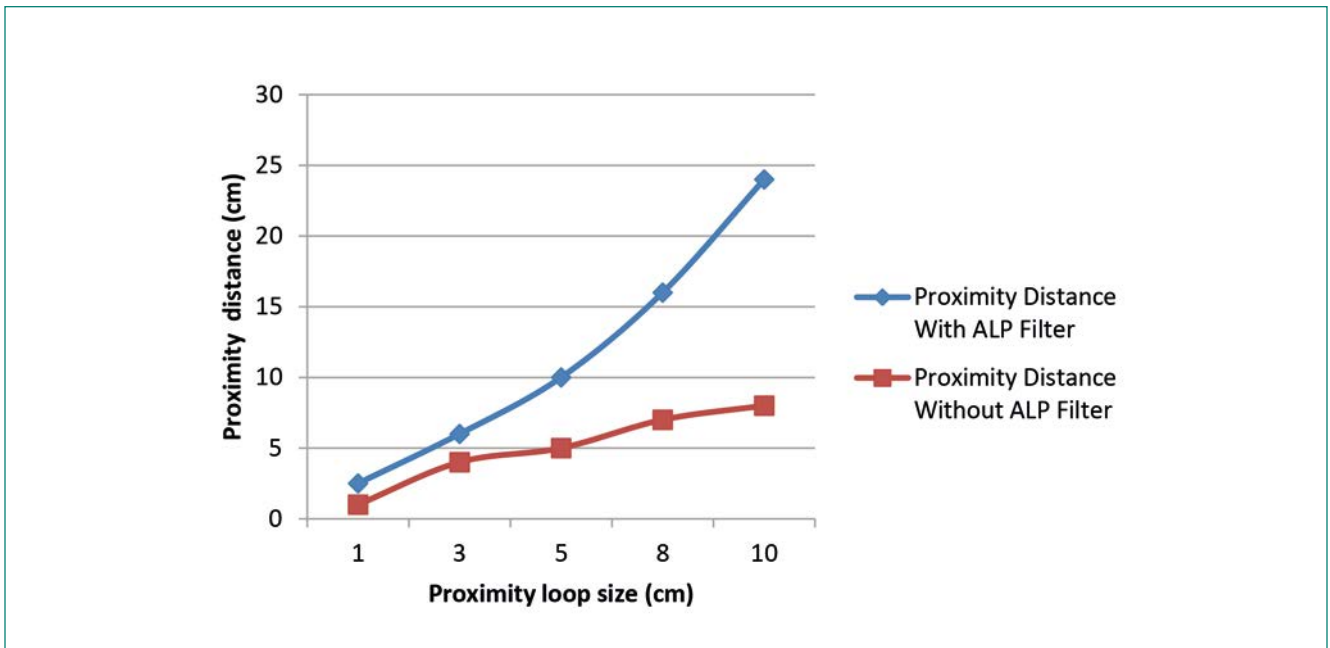

**Figure 4-8 Proximity Sensor Construction on PCB/FPC**
- Copper trace on a PCB or FPC: A long PCB trace can be used as a proximity sensor. The trace can be a straight line, or it can surround the perimeter of a system's user interface, as Figure 4-8 shows. Proximity sensor construction using PCB trace is appropriate for mass production, but it is not as sensitive as a wire sensor. It is recommended to have a ground loop around the proximity sensor to reduce the noise and provide immunity against ESD events. There is a trade-off between proximity range and noise immunity, ESD performance. For proximity sensor and ground loop layout recommendations, refer to the General Layout Guidelines sheet of the design toolbox.